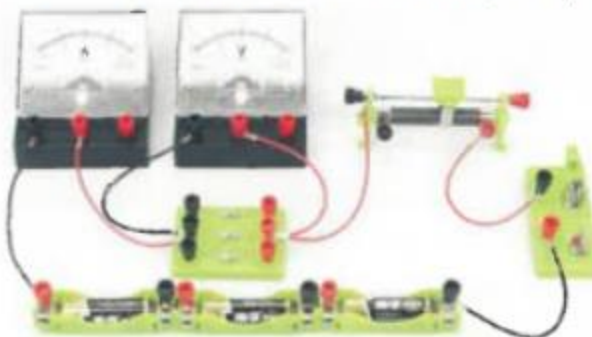

Figure 16-1
1. As shown in Figure 16-1, we have studied and passed the fixed value Resistor R (let $R=10$ ohms remain unchanged) pass the current passing through, by changing the sliding varistor to Change the voltage across the fixed-value resistor (it is best to measure Several times the voltage changes in integer multiples), measured at the same time The amount records the size of the current passing through the fixed-value resistor, Analyze the relationship between current and voltage.
2. The circuit shown in Figure 16-1 is also used, and the resistors of 5 ohm and 15 ohm are connected separately, and the sliding varistor is adjusted each time. The voltage across the R value remains the same, and the current in the circuit is measured and recorded at the same time, and the current and resistance are summarized separately.